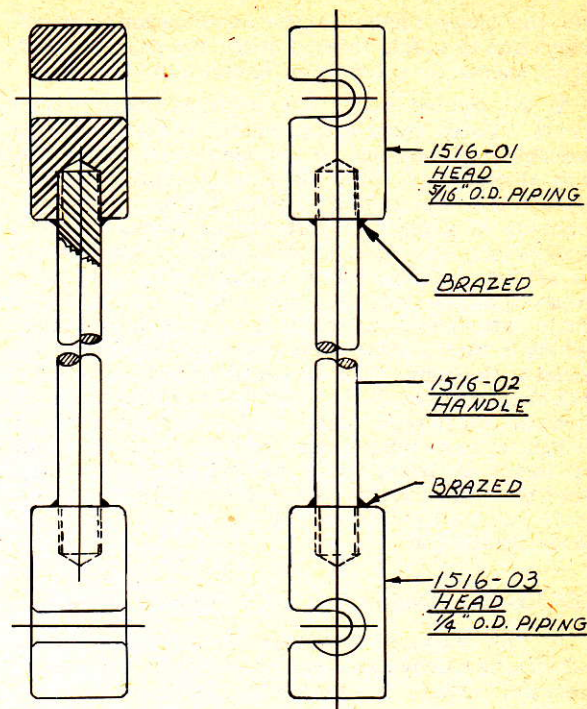

FIGURE 20-71.—Double-headed "bending hickey" for acetylene tubing.
A. *Bending steel pipe.*—Bending hickeys (fig. 20-71) are tools for use in connection with the bending of steel tubing. The long handles and the rounded slots in the head (which should be made of brass) serve to facilitate neat and accurate bending.
A. The following procedure should be followed when a new buoy has been received from the manufacturer. Note: See paragraph 20-13-1 (A). For example: An 8 x 26A lighted buoy.
(4) *Bending tubing.*—When the gas tubing is furnished in straight lengths, it may be bent to the desired angle using a "bending hickey." (See fig. 20-71.) Care must be taken not to fracture the copper covering of the steel tubing.